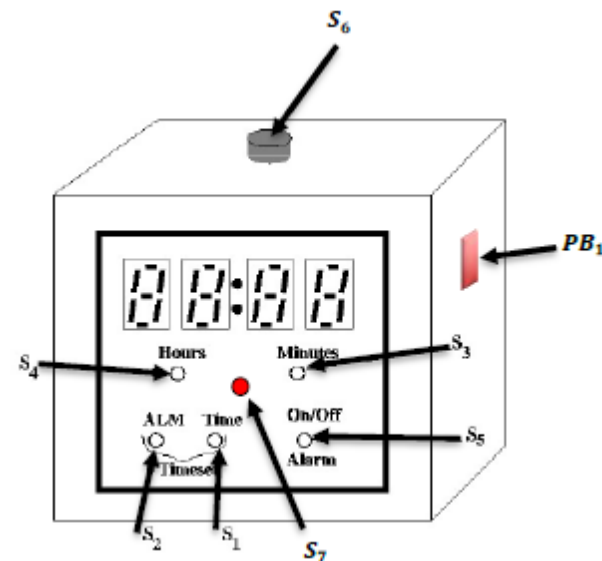

Figure 1 - Potential layout for the alarm clock
**Goal:** In this lab, you will design, develop, and implement a controller for an alarm clock (Figure 1) using VHDL, your FPGA, and extension board.
The alarm clock has a certain number of input switches ( $S_i$  on Figure 1 with  $i \in \{1..7\}$ ) and outputs (7-segment display (SSG), LEDs and the buzzer).